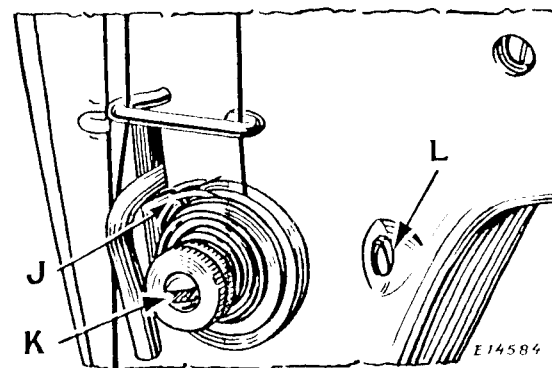

Fig. 19. Adjustment of Thread Take-up Spring
The thread take-up spring (J, Fig. 19) should be set so that when the eye of the needle reaches the goods on the downward
stroke of the needle bar, the spring will be through acting and will rest against the stop on the thread take-up spring regulator. If the thread take-up spring is not correctly set, as instructed above, loosen the set screw (L, Fig. 19) in the arm of the machine, and turn the tension stud (K, Fig. 19) to the right for more movement of the spring or to the left for less movement. When the spring is correctly set, securely tighten the set screw (L).